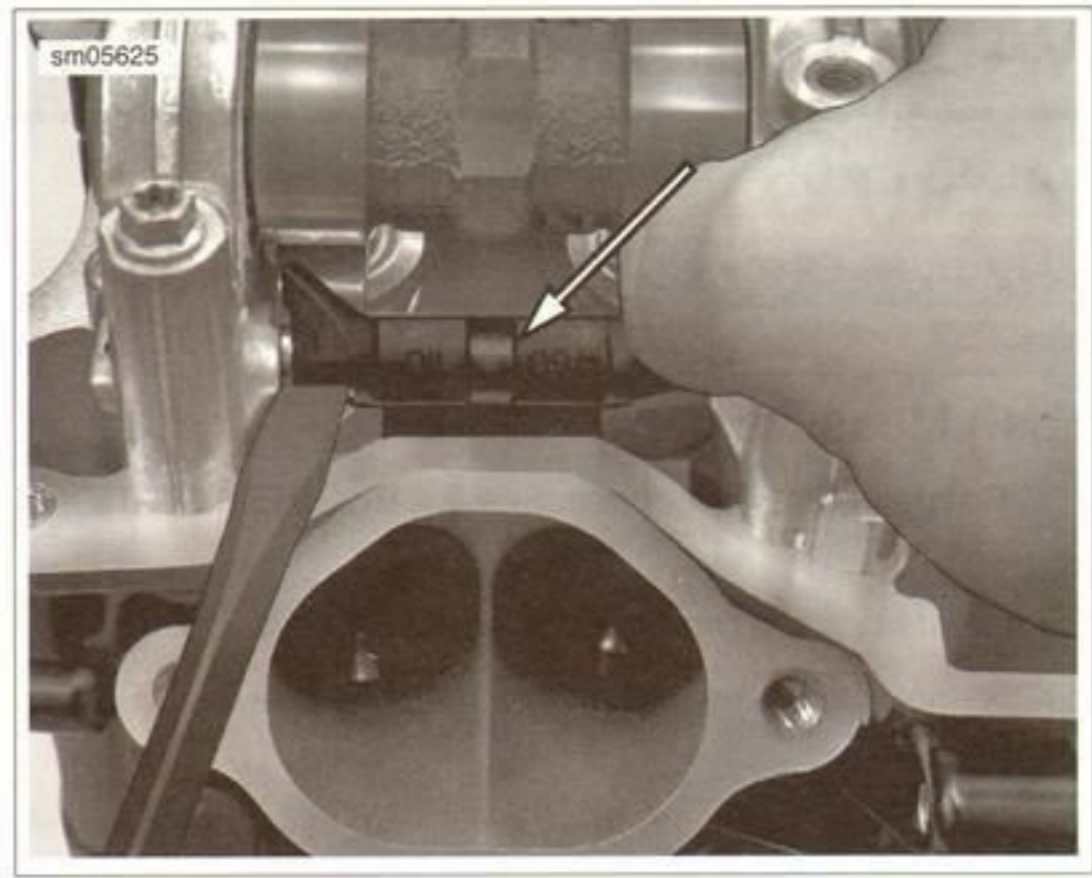

Figure 1-59. Intake Follower Spacer Removal
- a. Intake: See Figure 1-59. Remove intake follower spacer.